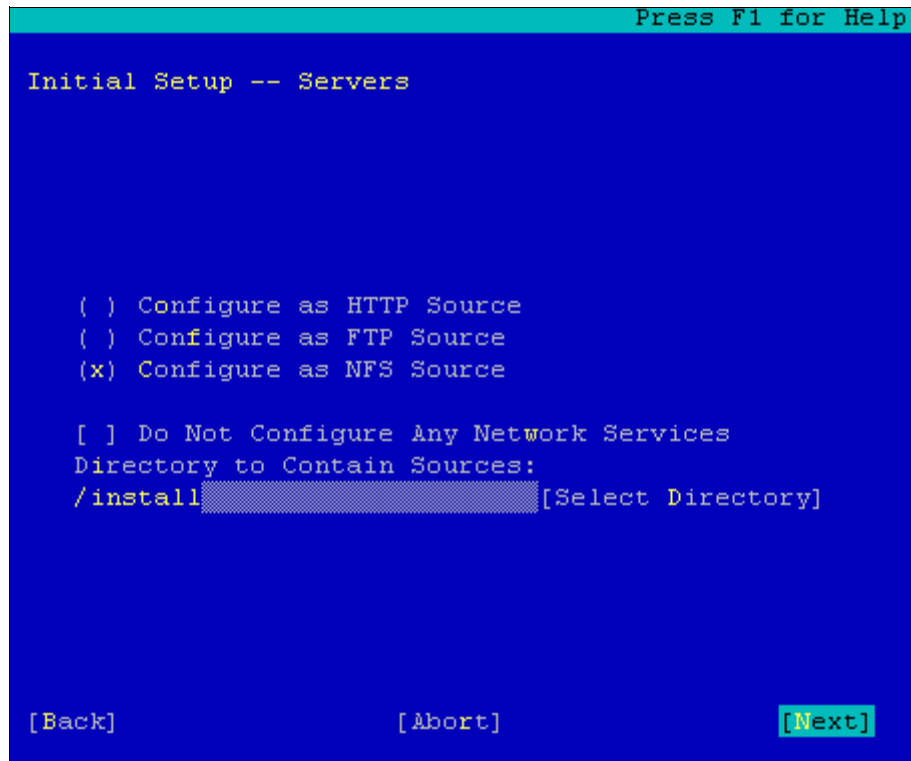

Figure C-2 Initial setup of SLES NFS installation server
3. Select **Configure as NFS Source** and enter the desired location source location directory. This example uses /install as shown in Figure C-2 on page 542.